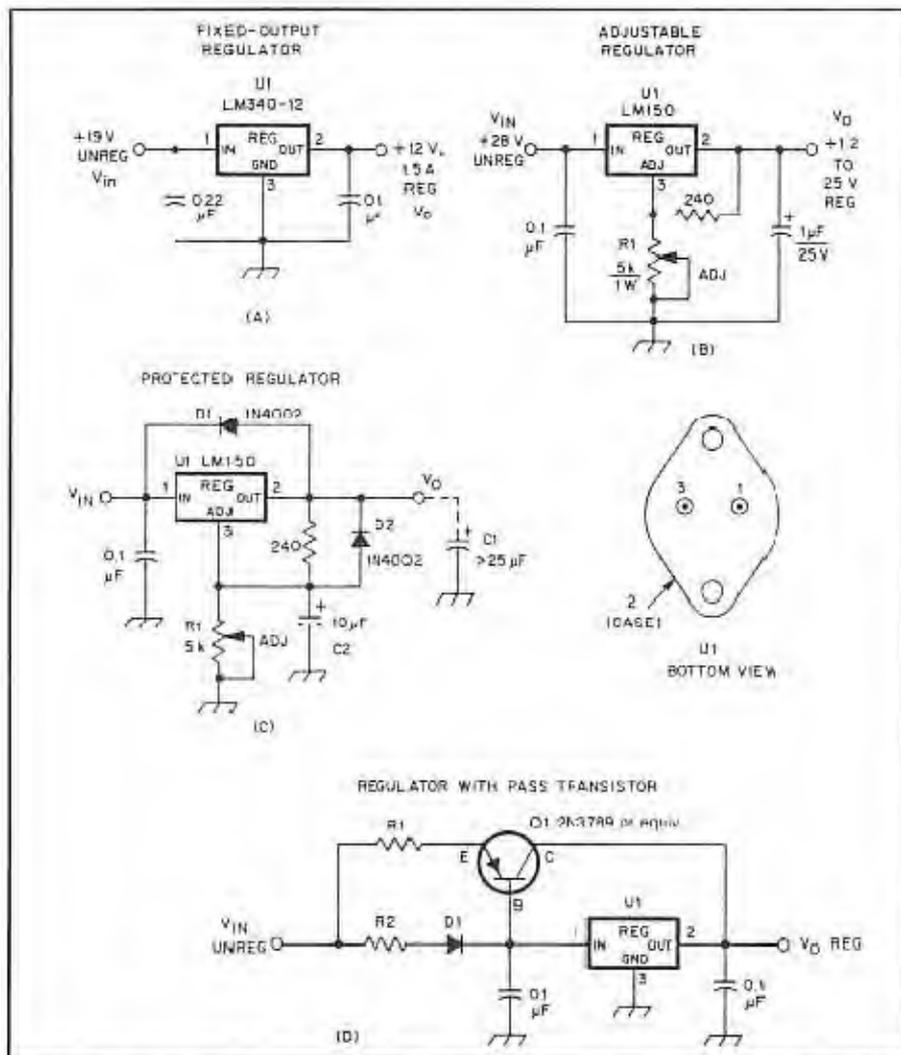

Fig 2—Circuits for three-terminal regulator ICs. These circuits are explained in the text.
Four basic considerations exist for selecting a regulator: (1) the maximum required output current; (2) required output voltage; (3) unregulated input voltage; and (4) ambient temperature. When you know the answers to items 1 and 2, you may consult the manufacturer's data sheets and make a device selection. Always choose a regulator that has a power dissipation ( $P_D$ ) greater than the maximum load current presented by your equipment. Fig 2 shows some simple circuits for three-terminal regulators. The example at A represents a standard fixed-voltage regulator. ICs are available for various standard output voltages at various maximum-current ratings, such as 5 V, 8 V, and so on. They are also available for positive or negative power supplies. Fig 2B shows a typical adjustable regulator of the type that might
be used for a bench supply. An adjustable regulator with protective diodes (D1 and D2) is shown at C of Fig 2. The diodes are recommended when the output capacitance (C1) is 25  $\mu\text{F}$  or greater. This may be the situation when the equipment used with the power supply contains a high-value filter capacitor at the voltage-input terminal. The low internal resistance of the capacitor can cause high-amperage spikes when shorted (in excess of 20 A), and this can destroy the regulator IC. D1 protects U1 against input short circuiting (C1), and D2 protects U1 against output shorting (C2). Under the respective shorting conditions, C1 and C2 will discharge through the IC and destroy it.